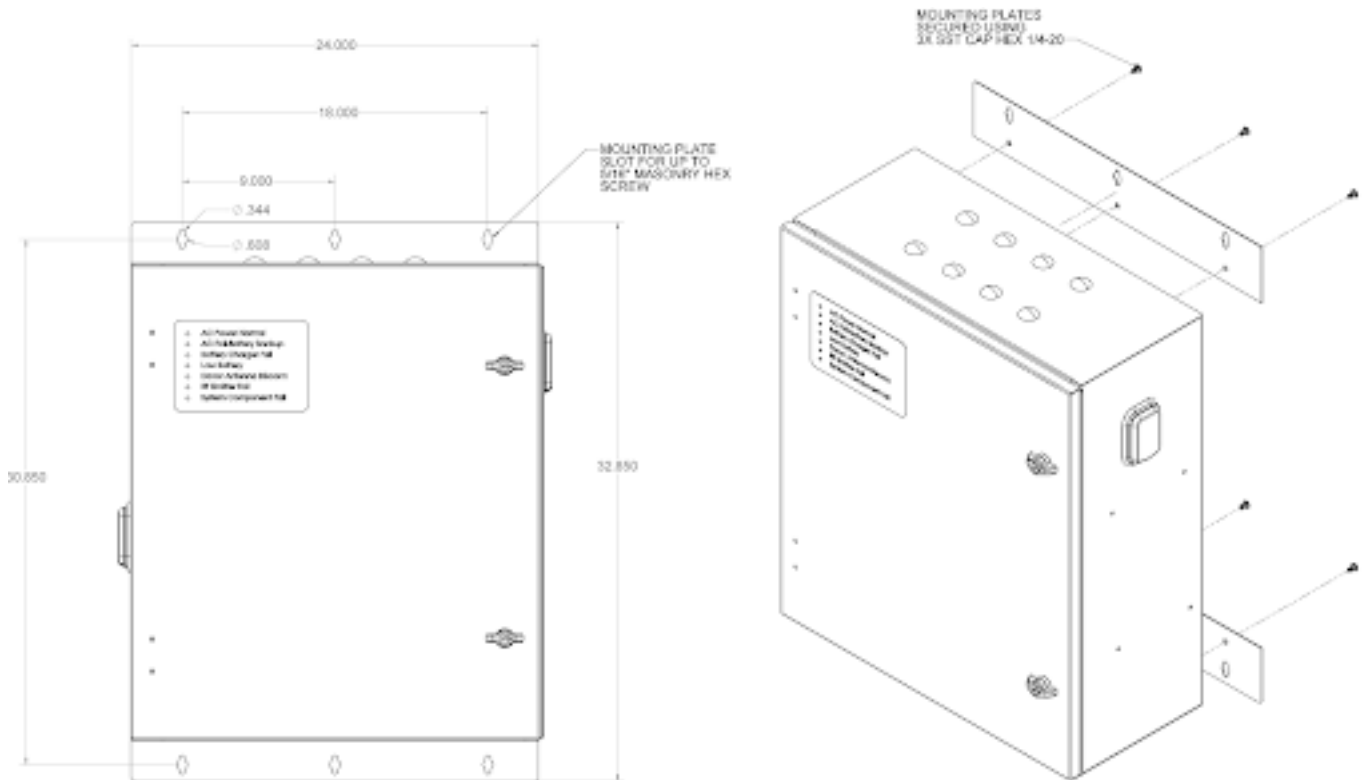

Figure 1
2. Use the supplied six (6) masonry hex screws and screw them into the predrilled holes leaving ¼ inch of thread exposed to hang the BBU enclosure prior to final tightening of mounting bolts.
3. Attach wall mounting brackets using the supplied six (6) hex machine screws to the enclosure as shown on Fig. 1 below and then hang the BBU enclosure onto the pre-installed mounting bolts and secure the bolts to the wall. Mount unit in the desired location: Use the supplied mounting bracket template to mark and predrill holes in the wall to line up with the mounting bracket hardware keyed through holes included with the product. Ensure the template is level prior to drilling.